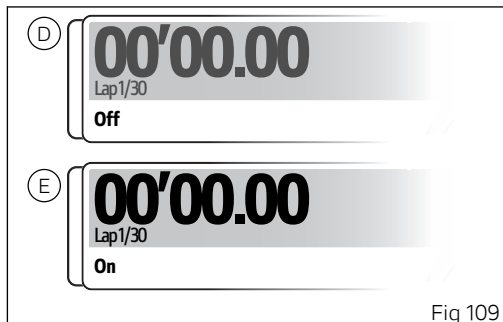

Fig 109
- If the function is disabled, Off is shown with the stopwatch and indication of the available laps (D, Fig 109); press ENTER button (3) to enable the function.
- If the function is enabled, On is shown with the stopwatch and indication of the available laps (E, Fig 109); press ENTER button (3) to disable the function.